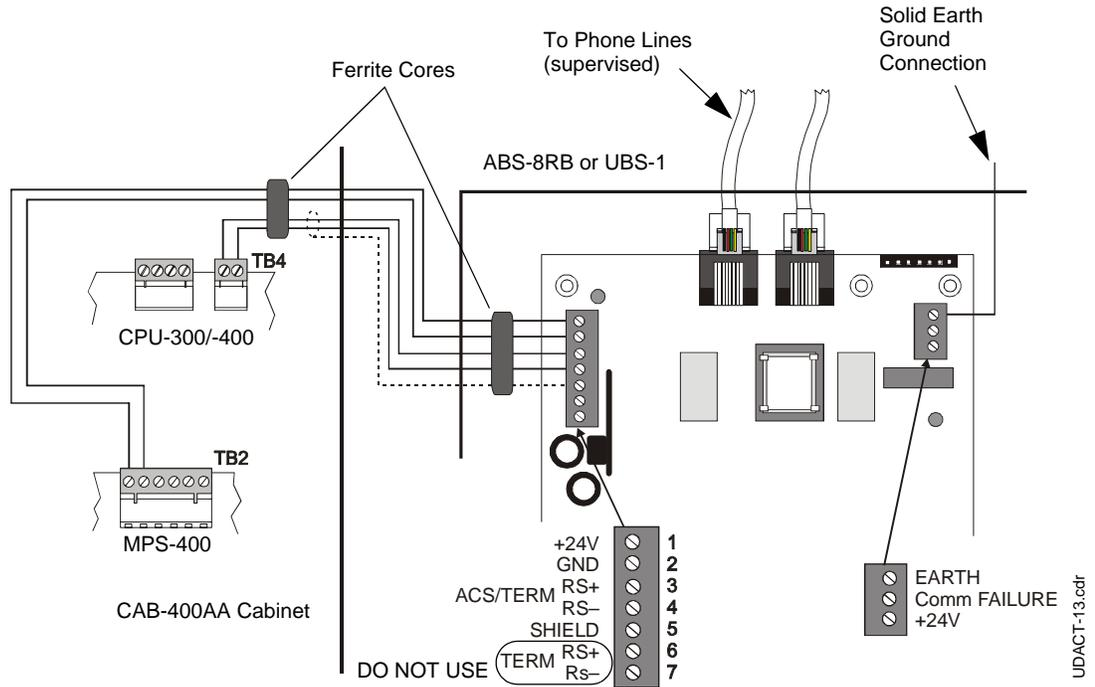
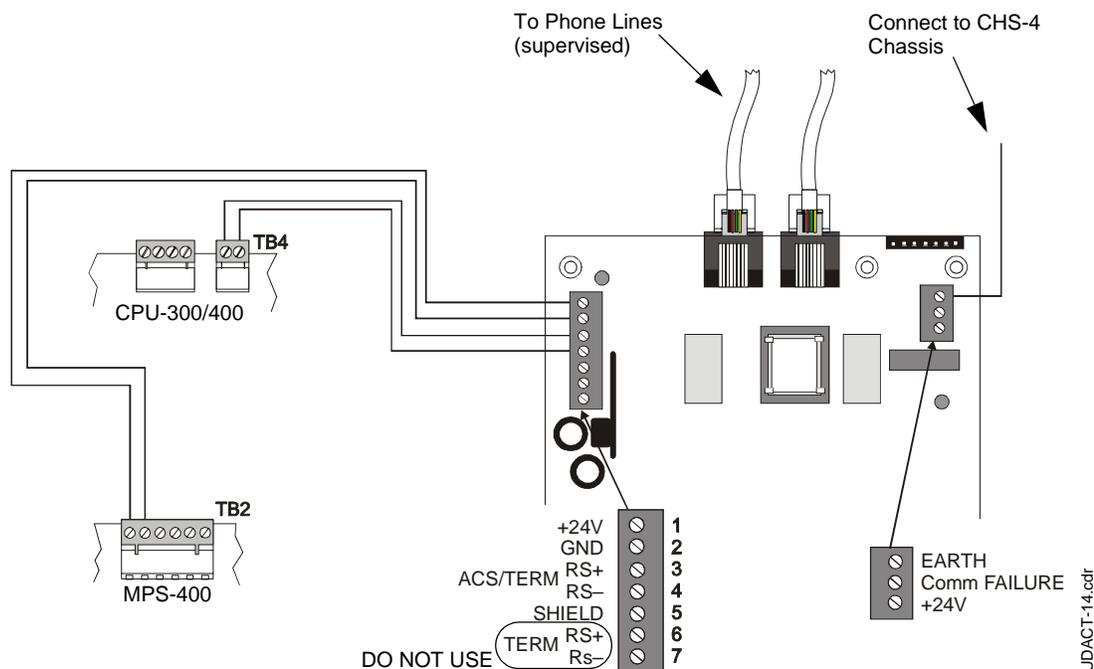

Figure E.1 UDACT and AFP-300/AFP-400 in CAB-400AA
Figure E.2 UDACT and AFP-300/AFP-400 in CAB-3/4
Refer to Figure E.1 and Figure E.2 on page 82.
2. Recommended wire is 12 AWG (3.25mm²) to 18 AWG (0.75mm²), twisted pair, shielded cable. Connect only one end of shield: a) shield may be connected to cabinet (earth ground) at fire alarm panel, or b) shield may be connected to TB1 Terminal 5 (Shield) at UDACT as shown in Figure E.1.